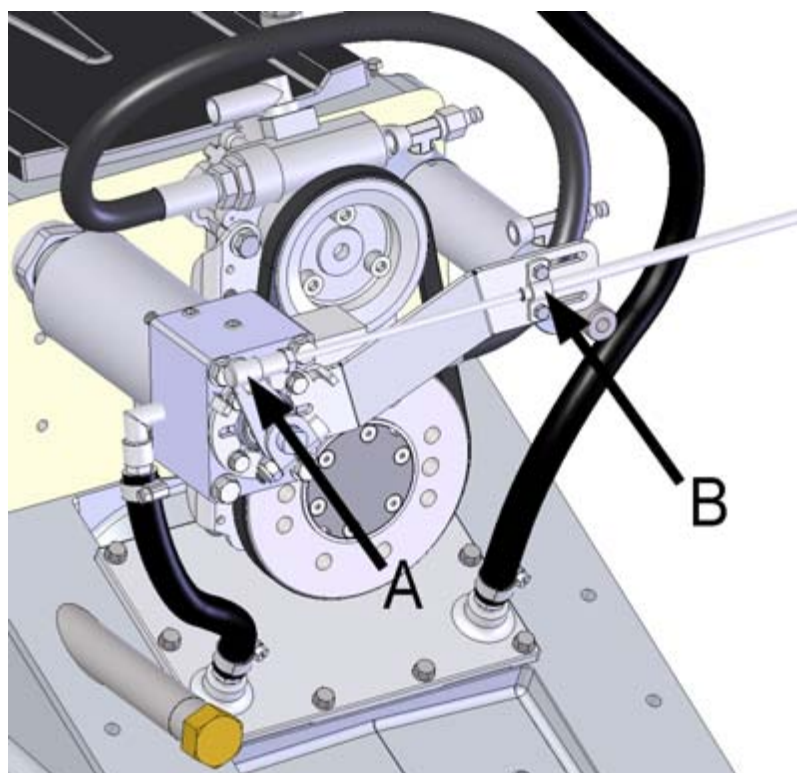

Figure 60. Removing the cable
- 1.1. Remove the cable angle joint (figure 60, point A) from the control lever.
- 1.2. Remove the saddle mounting from the cable clamp (figure 60, point B).